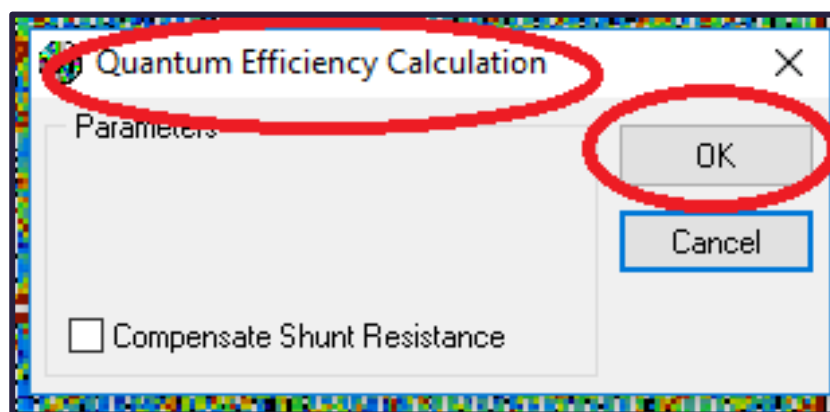

Figure. 21
21. Click “OK” in the “Quantum Efficiency Calculation” pop-up window. (Figure. 21) **Note:** Once EQE/IQE has been calculated, Isc maps are replaced by QE maps.